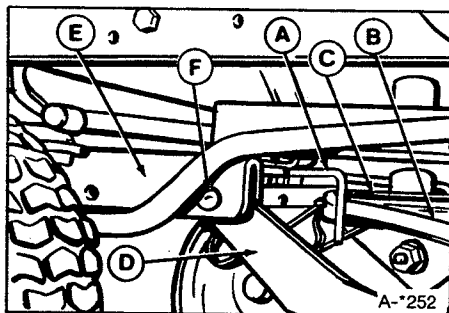
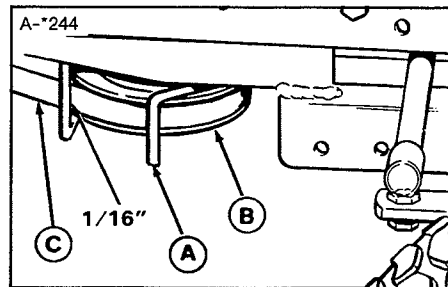

Figure 3. L.H. Belt Stop
Figure 5. Right-Hand Belt Stop - 42" Mowers
8. Lift up front of mower and insert pins (F, figure 3) to attach mower hitch arms to tractor hitch (E). (You can insert a pry bar under front edge of deck to raise.)
10. Slip the mower drive belt onto the engine PTO pulley loosening belt stops as necessary. The left-hand belt stop is shown in figure 3. The right-hand belt stop for 42" mowers is shown in figure 5. The right-hand belt stop for 36" mowers is shown in figure 5A. Position belt stops 1/16" from belt.